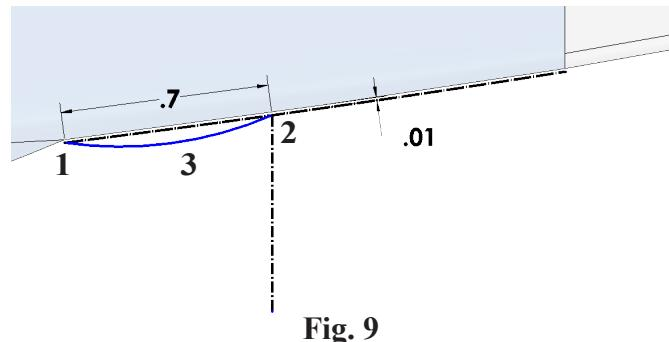

Fig. 9
Step 11. Click **3 Point Arc**  (S) in the Arc flyout  on the Sketch toolbar.
Step 12. Draw an arc starting from left endpoint of offset entity to top endpoint of vertical construction line. To draw arc, click Point 1 for start point and Point 2 for ending point, then Point 3 for third point, **Fig. 9**.